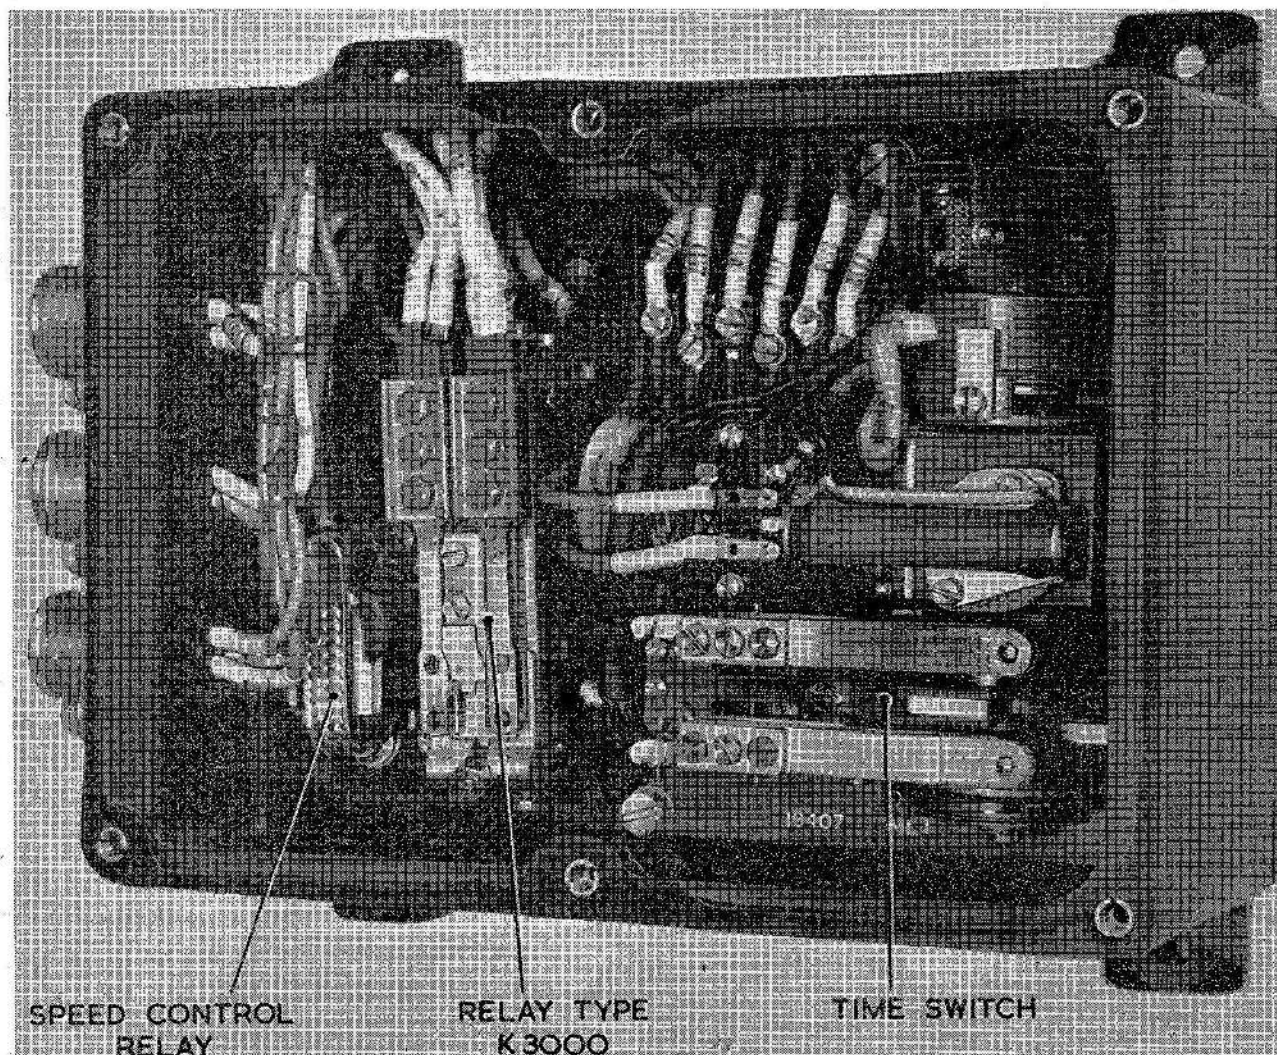

Fig. 1. View of Mk. 8 control box with cover removed
1. The control box Mk. 8 (fig. 1) is used to govern the timed sequence of operations in Plessey liquid-fuel turbo-starter systems described in A.P.1181B, Vol. 1 and 6, Part 1, Sect. 1, Chap. 3, in which para. 40 to 48 and fig. 4 cover the operation of the control box system.
General (fig. 1)